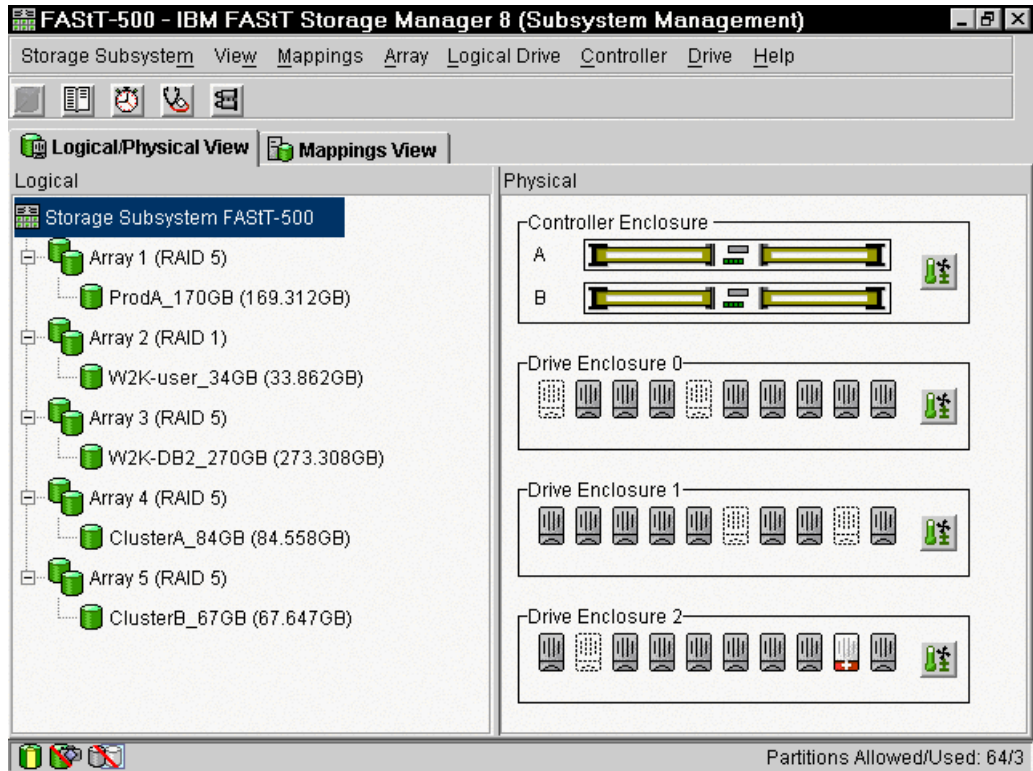

Figure 7-17 Logical/Physical View after the update
- Verify that your configuration was successfully maintained. Open the Storage Subsystem Management window. Under the **Logical/Physical View** tab (Figure 7-17), visually check to see if the arrays look OK.